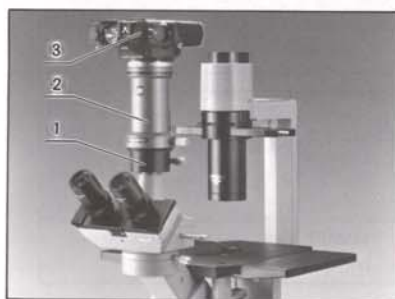

Fig. 20
- 1) Mount the photo eyepiece adapter PM-ADF ① (into which a choice of NFK photo eyepiece is inserted), Photomicro adapter-L (MOM-L) ②, and OM camera back ③ on the photo tube in this order. (Fig. 20)